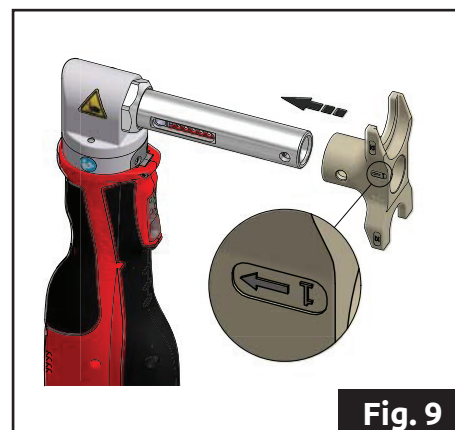

Fig. 9
3. Push the pusher adapter with inscription 1 onto the guide rod in the direction of the arrow (fig. 9).